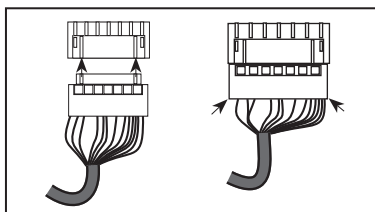

Figure 6B
6. Attach cable assembly to the inside escutcheon printed circuit board (PCB) by lining up notches on top of cable connector to slots on PCB connector (Fig. 6B). Press connector in firmly using thumbs until completely seated (proper position indicated by arrows on PCB as in Figures 6A and 6B).